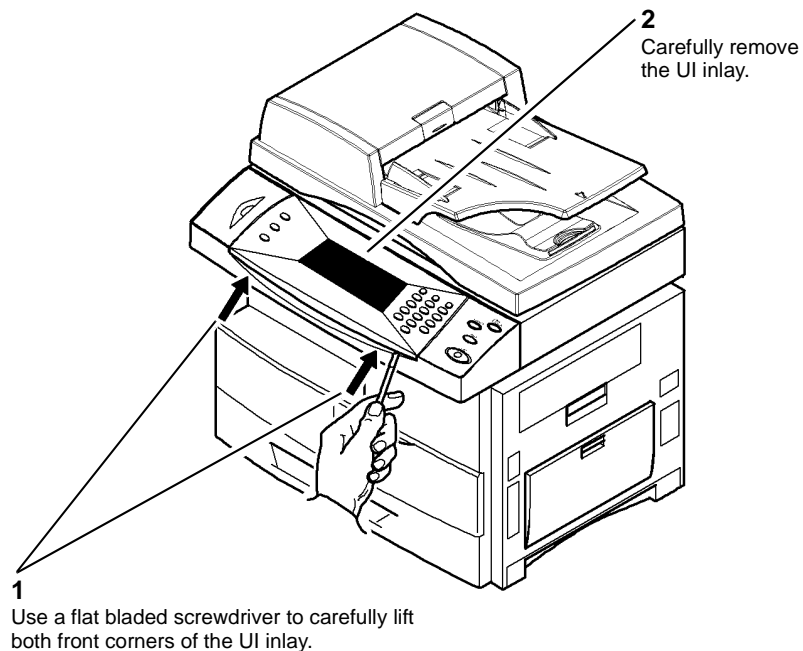

Figure 1 UI inlay removal
1. Remove the UI inlay, Figure 1.